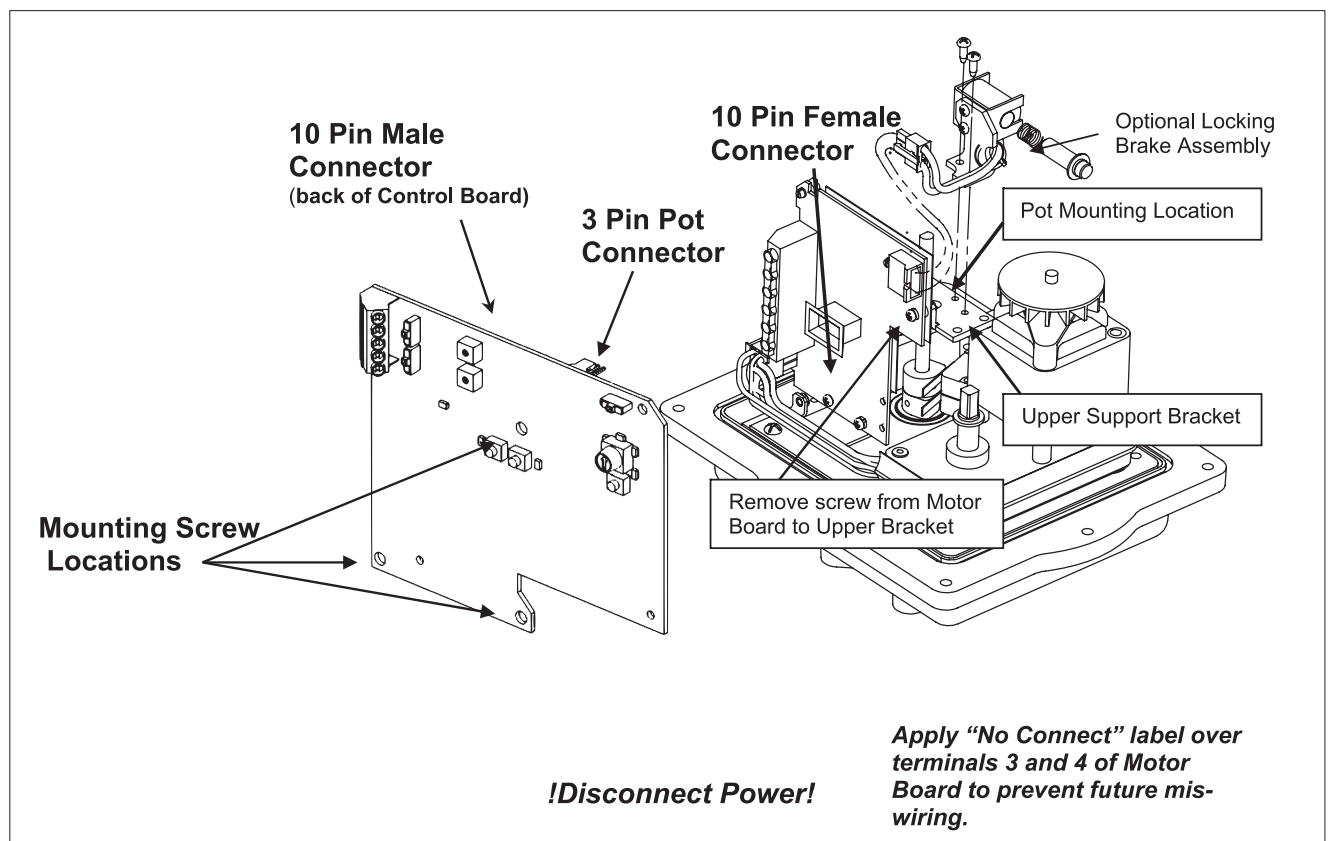

Figure 4.
1. Remove and discard the screw that secures the Motor Board to the upper bracket. (See Figure 4)
6. Supply power to terminal 1 and terminal 2, only. (Affix "No Connect" label; see Figure 4)